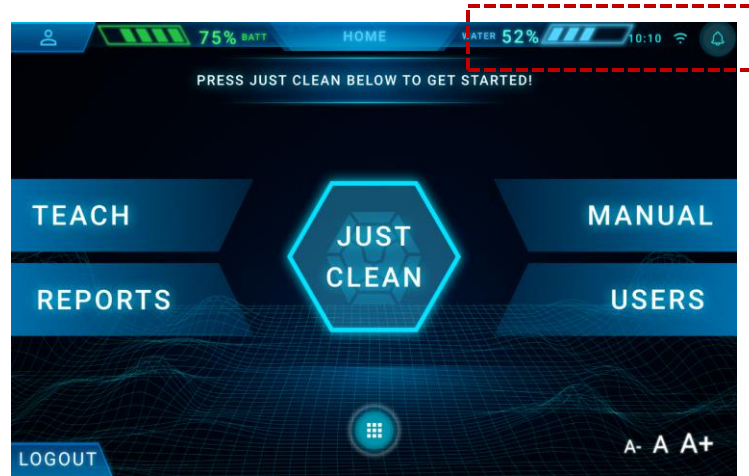

Fig. 1
1. Check the clean water level (Fig. 1 -RED BOX) on the touch screen attached to the REXSCRUB.